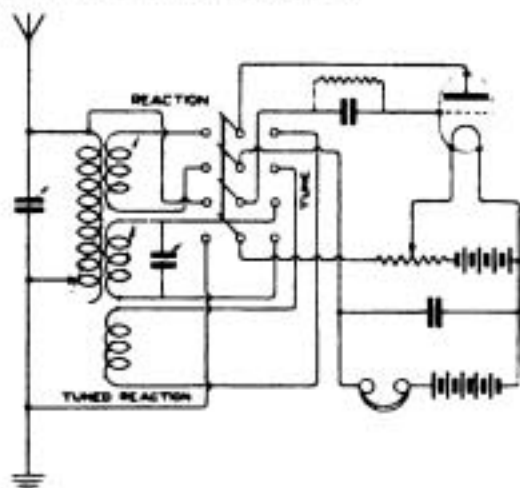

Fig. 1.
M.F.C.W. (Malvern) asks (1) Which is the better of two given circuits. (2) If vulcanised fibre is as good an insulator as ebonite. (3) If a vario-meter in the grid circuit is an improvement. (4) How to change quickly from one circuit of (1) above to the other.
(1) and (4) (a) Is good for searching, and (b) for continuous reception after the station is heard. A switching arrangement is given in Fig. 1.
(2) It depends on the relative qualities, but it is probably quite good for receivers.
(3) No, we do not think so.
(3) Possible with very careful adjustment.
(4) See Fig. 1, page 851 of the March 5th issue. We do not recommend more than two stages of L.F. amplification, but you can try a third, connected in the same way as the others, if you wish to.
C.F.L. (Streatham Hill).—(1) Effects of this nature are common, but generally hard to explain accurately. The effect is due to a capacity introduced between the coil and the telephones, but it is not easy to explain how it works.